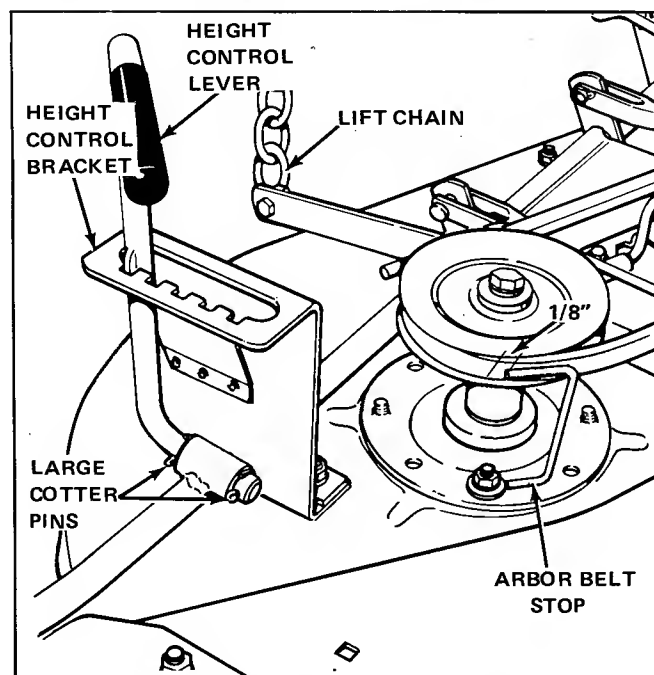

Figure 49. Attach Height Control Lever
2. Insert the height control lever through the height control bracket, as shown in figure 49.
3. Attach the height control lever to the right rocker arm, using two of the large cotter pins provided (see figure 49). Spread the legs of the cotter pins around the lever.
5. Install lift chain on mower as shown in figure 49. Using the capscrew and flange locknut provided, secure chain on locknut side of arm so that is **tight enough not to rattle yet loose enough to pivot.**
8. Insert the height control lever through the height control lever bracket, and attach the control lever to the right rocker arm using two of the large cotter pins provided (see figures 49 and 52). Spread the legs of the cotter pins around the lever.